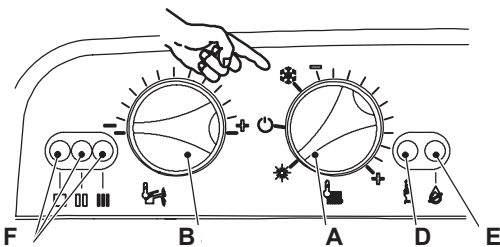

Figure 10.15
- Turn the boiler ON positioning the function selector knob A as indicated in Figure 10.15 and ensure that the timer selector switch and room thermostat, if fitted, are set to "heat demand".